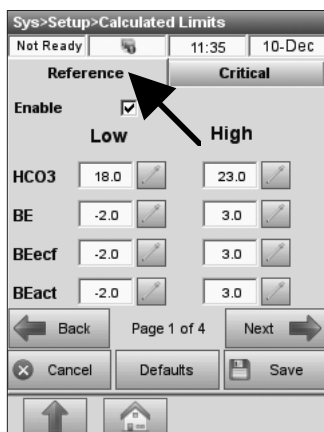

Fig. 3-40 Reference Limits
2. On the **<Reference>** tab (Fig. 3-40), select the parameter you want to change and press  to enter the new limit value. By default, reference ranges are enabled.